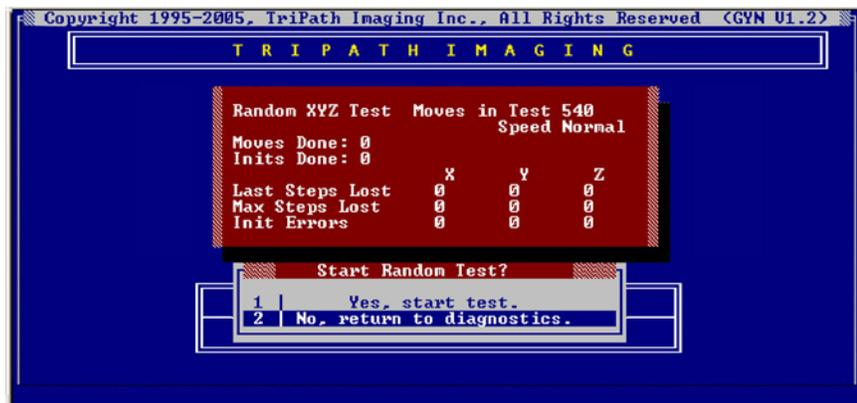

Figure 2-9 Random XYZ: Results screen
5. *Figure 2-9* illustrates a typical Results screen. Listed below are the acceptable test values for each parameter.